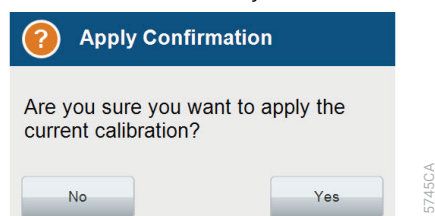

Figure 42. Apply spectral calibration confirmation window.
7. After reviewing the results, select **Finish**. This will open a confirmation window. Select **Yes** to apply the spectral calibration results (Figure 42). The spectral calibration results will not be saved unless you select **Yes** on this window.